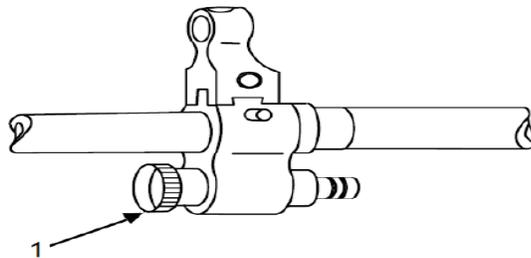

Figure 22. Gas Collar on Barrel.
3. Check for loose gas collar on barrel (Figure 22, Item 1). If loose, replace (TM 9-1005-201-10).